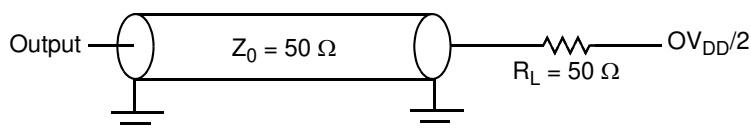

Figure 36. AC Test Load for the JTAG Interface
1. All outputs are measured from the midpoint voltage of the falling/rising edge of t_{TCLK} to the midpoint of the signal in question. The output timings are measured at the pins. All output timings assume a purely resistive 50-Ω load (see Figure 36). Time-of-flight delays must be added for trace lengths, vias, and connectors in the system.
2. The symbols used for timing specifications follow the pattern of $t_{\text{(first two letters of functional block)(signal)(state)(reference)(state)}}$ for inputs and $t_{\text{(first two letters of functional block)(reference)(state)(signal)(state)}}$ for outputs. For example, t_{JTDVKH} symbolizes JTAG device timing (JT) with respect to the time data input signals (D) reaching the valid state (V) relative to the t_{JTG} clock reference (K) going to the high (H) state or setup time. Also, t_{JTDXKH} symbolizes JTAG timing (JT) with respect to the time data input signals (D) went invalid (X) relative to the t_{JTG} clock reference (K) going to the high (H) state. Note that, in general, the clock reference symbol representation is based on three letters representing the clock of a particular functional. For rise and fall times, the latter convention is used with the appropriate letter: R (rise) or F (fall).